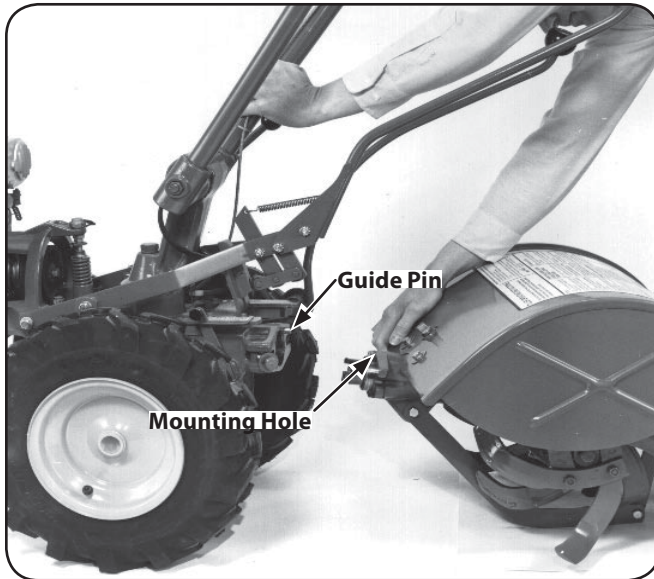

Figure 4-22
9. Tip the PTO power machine forward about one inch with one hand while pulling the tine attachment back. Fig. 4-22.